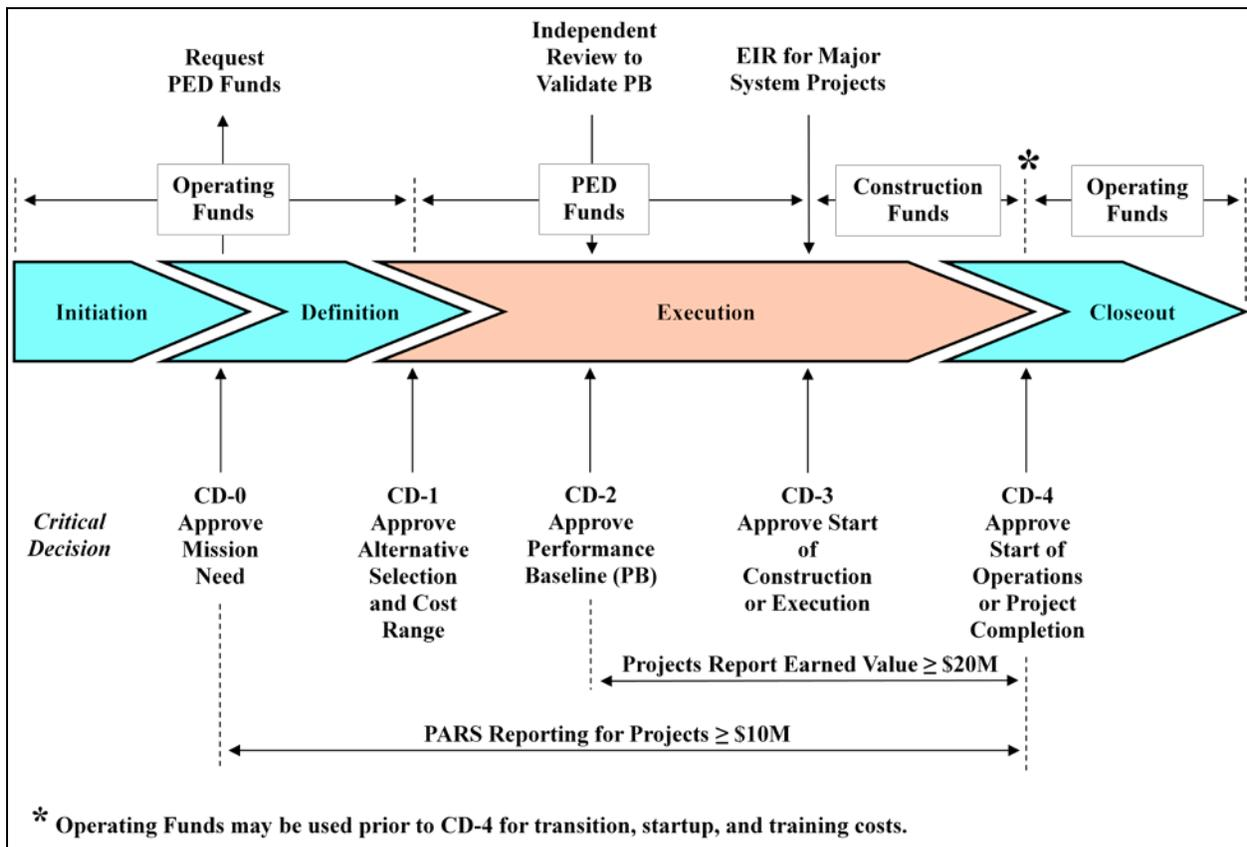

Figure 1 Typical DOE Acquisition Management System for Line-Item Projects
PARS II is a component of the iManage, enterprise-wide systems initiative, and its design reflects how DOE executes and monitors capital projects. Figure 1 *Typical DOE Acquisition Management System for Line-Item Projects* shows the typical process flow of a capital project through Critical Decision (CD) milestones, and the criteria for projects to be included in PARS II reporting.
achieved. The left-hand side of the diagram shows the updates that are performed on a monthly basis. Monthly updates are accepted in PARS II for all projects in the database and at any CD level. Approval of CD-0 initiates a requirement for project status reporting. As indicated in Figure 1, this reporting continues through the approval of CD-4 for all projects with a Total Project Cost (TPC) greater than or equal to \$10M. At CD-2 and continuing through CD-4, projects with a TPC greater than or equal to \$20M must report earned value performance in PARS II.